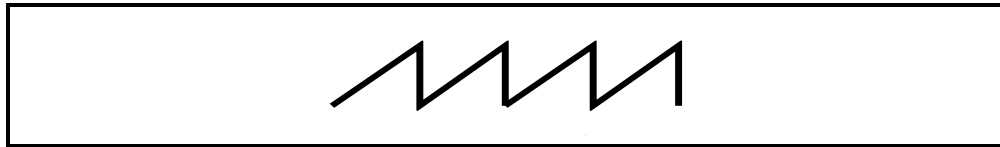

FIGURE 6.1.1
6.1 Identify the following waveforms as shown in FIGURES 6.1.1 to 6.1.4.